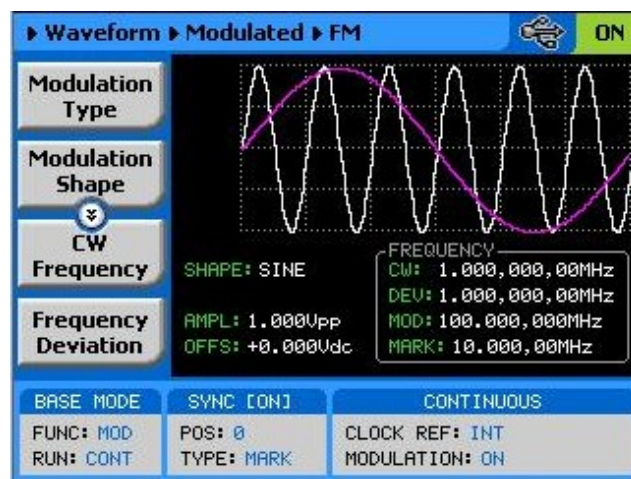

Figure 3-24, FM Modulation Parameters
Frequency modulation is the most common modulation scheme used in telecommunications. In this mode, the carrier waveform (CW) is modulated by an internal modulating waveform. The FM function has a number of menus that control the modulation parameters. These are shown in Figure 3-24 and described in the following paragraphs: